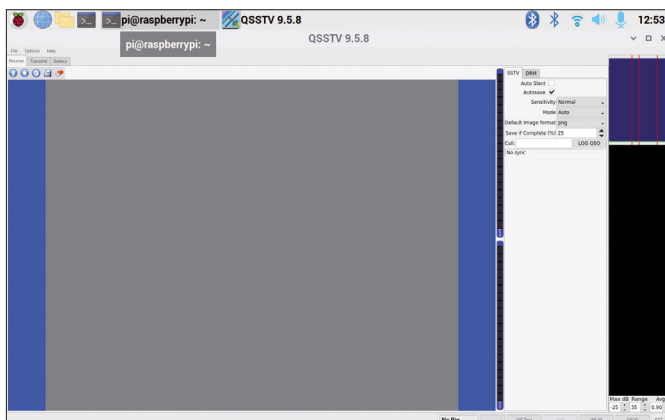
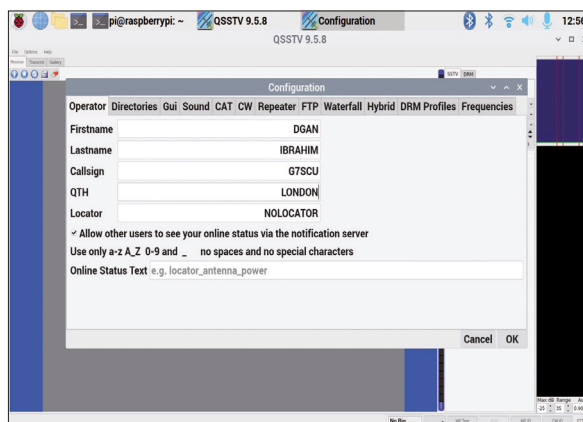
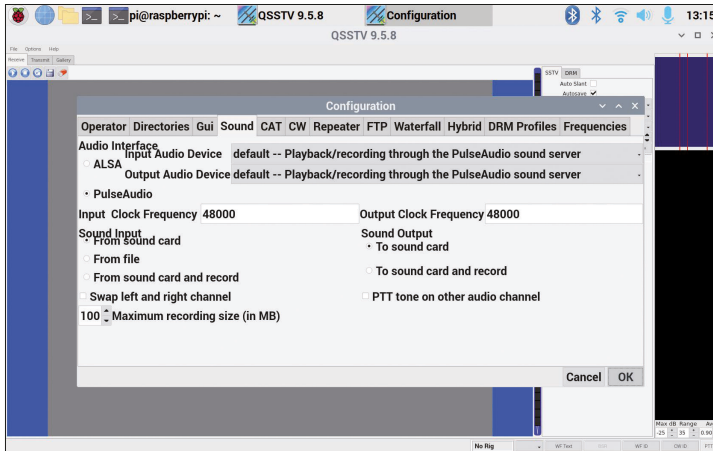

Figure 17.46: qsstv startup menu.
Figure 17.47: Configure operator details.
Figure 17.48: Audio configuration.
Figure 17.46 shows the qsstv startup menu. When the program is run the first time it should be configured. Click **Options** menu and then **Configuration** and enter the operator details, Directories, GUI, audio details, CW speed etc (see Figure 17.47 for operator details). Click **OK** when finished. Figure 17.48 shows the audio configuration.
- Configure the QSSTV software to receive audio data from the audio adapter USB port (Figure 17.48) and click **OK**.